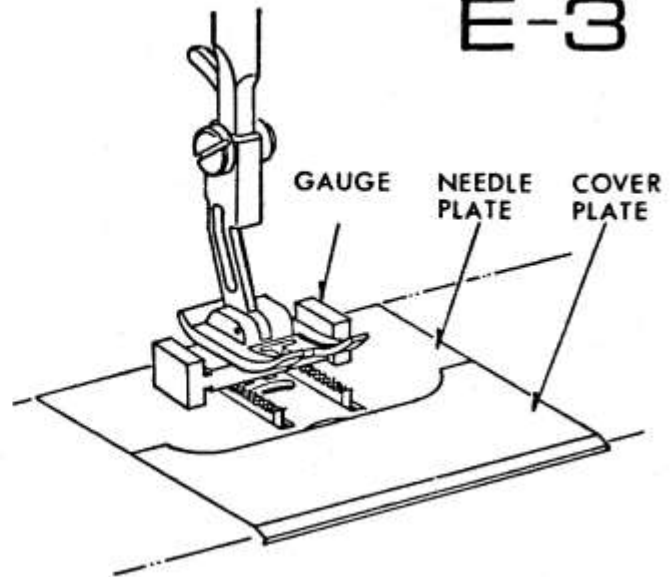
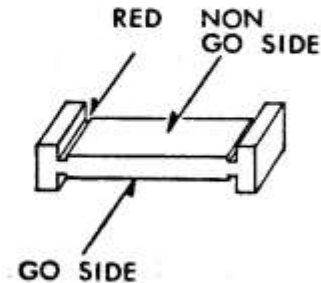

FIGURE 2
FIGURE 3
- Place the feeddog height gauge (Figure 3) with go-side facing needle plate (red on top) at the back of needle slot (Figure 2). Lower presser foot.
1. Turn handwheel toward you until the left guide on the flange of bobbin case touches the retainer as shown in the inset in Figure 2.
1. Make sure shuttle retainer arm is in position as shown in the inset of Fig. 2